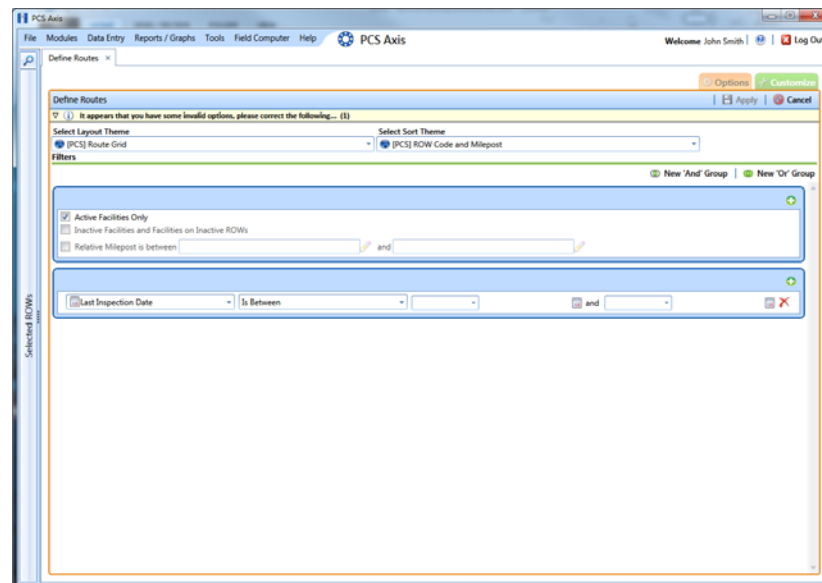

Figure 7-4. New 'And' Filter Group
- 7** If you want to add a new AND filter group, complete the following steps. With an AND filter group, PCS Axis includes a subset of records that meet *all* filter conditions defined for the filter group. Records are filtered in the grid and in the route (Figure 7-4, page 289).